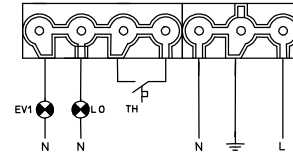
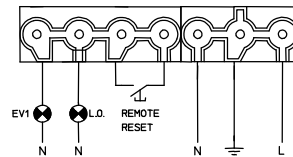

Fig. 2
Fig. 3
The two outputs marked by a lamp symbol indicate the first valve (EV1) opening external signals and the lockout signal (L.O.). The thermal contact symbol in Fig.2 corresponds to the ambient thermostat (TH) connection, whereas the push-button symbol in Fig.3 indicates the remote reset connection.